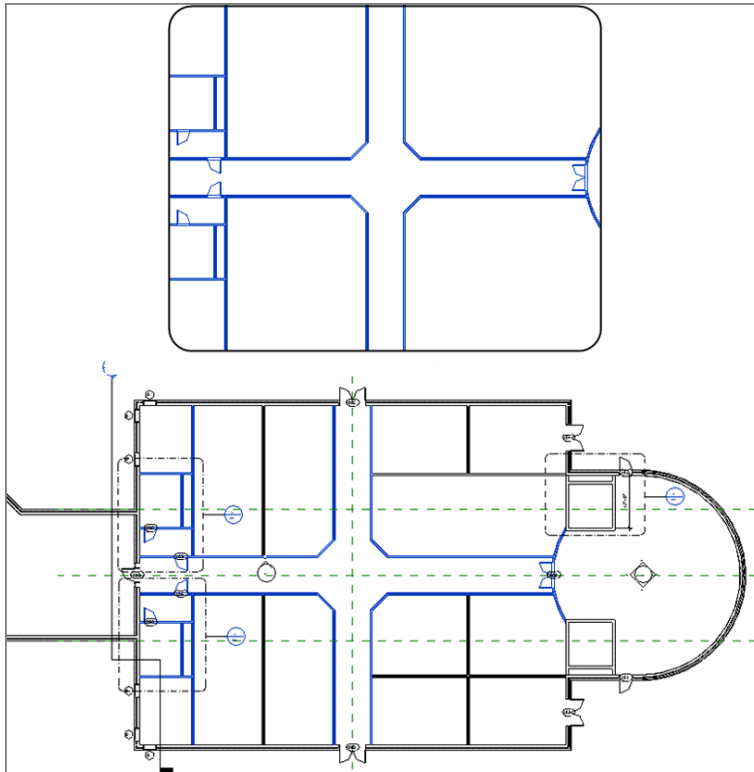

FIGURE 4.50: Selecting the items to be copied to the Clipboard
2. Select the walls, door, and windows that define both bathrooms. Also select the corridor walls and the radial corridor wall at the east end of the building. Be sure to select the internal doors as well. These selections are shown in Figure 4.50.